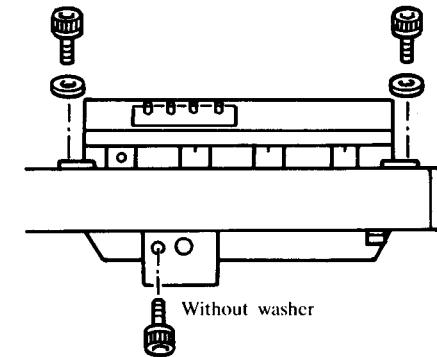

Fig. 9
- (4) Remove the bolt (5×8) and washer for the Belt cover.
(5) Pull out the Belt cover to the opposite direction of the Motor head.
(6) Take the Jam sensor (Motor stop sensor), Yarn sensors and plug of Foot switch out of the Motor head.
(7) Remove the three bolts (5×8) Fixing the Motor head to the Rail. (Refer to Fig. 9)
(8) While supporting the motor head with your hand, pull it out the rail.